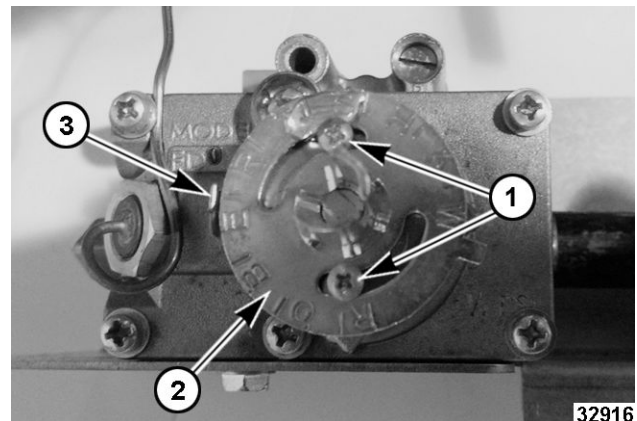

Fig. 123
- B. Loosen both calibration screws (1, Fig. 123) until calibration plate moves independently of the control.
- C. Turn calibration plate (2, Fig. 123) until mark corresponding to test instrument or thermometer reading is in line with center of pointer "A" (3, Fig. 123), and while holding in this position, tighten calibration screws firmly.